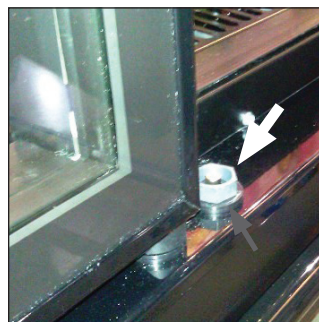

Fig 4.9 Removing the door exposes the frame power coupling.
2. Remove the door-squaring pinion (Fig. 4.9).